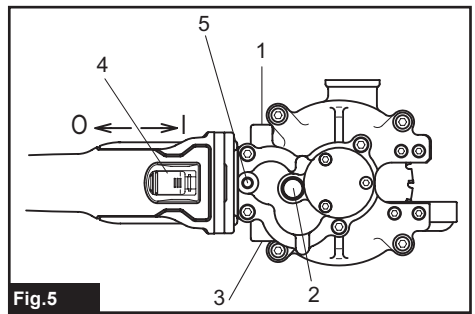

Fig.5
► **Fig.5:** 1. Handle Position (parallel / left side) 2. Lock Button 3. Handle Position (parallel / right side) 4. Switch 5. Handle Position (vertical / upper side)